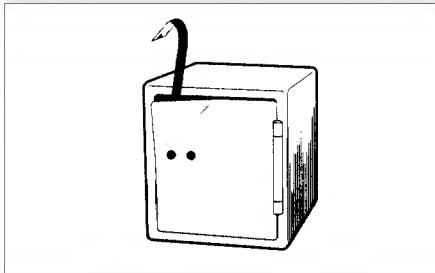

Figure 1.
2. Then, pry open the angled steel plate on the door front (Figure 1).